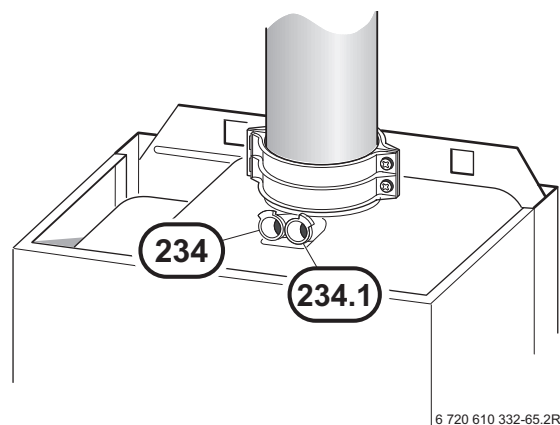

Fig. 43
- ▶ Remove sealing plug from combustion air testing point (234.1, Fig. 43).
- ▶ Remove sealing plug from flue gas testing point (234, Fig. 43).